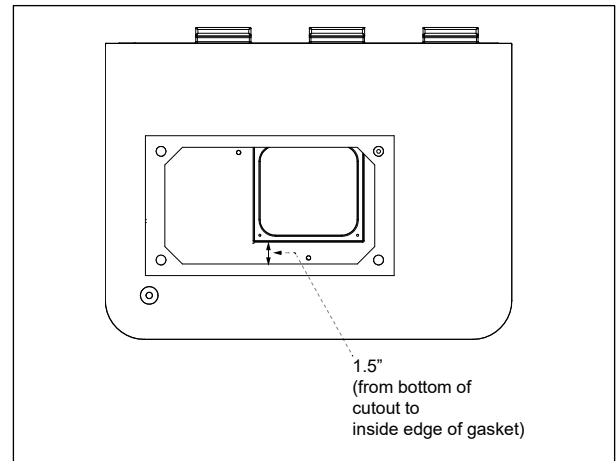

Figure 3 Distance to BGE Cutout
2. Ensure the bottom of the gasket opening is 1.5" away from the bottom cutout edge (Figure 3).